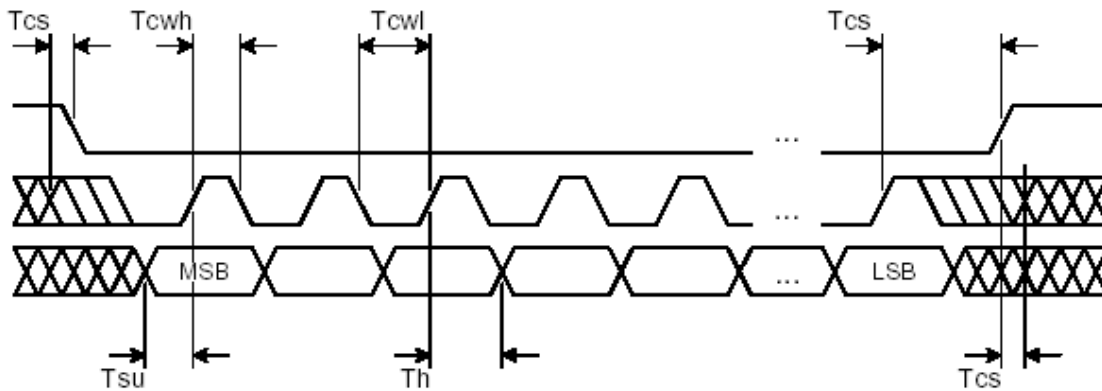

Figure 23 – R2722 Serial Interface Timing Diagram
Figure 23 shows a timing diagram for the serial interface. The slave select (SS) pin is normally high. A serial transfer is initiated by taking SS low. The address and data bits on the serial data in (SDI) pin are shifted in on rising edges of the serial clock (SCLK) pin. Twelve data bits follow the four address bits. The data is latched and changes take effect on the rising edge of SS. Refer to the Electrical Specifications for the timing requirements.